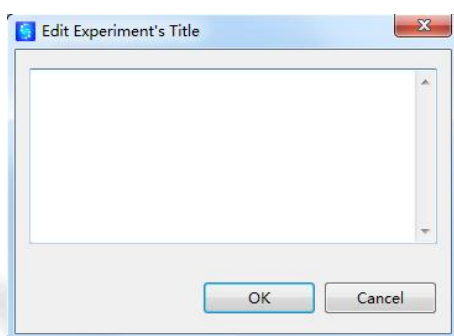

Figure 1.79 Edit title dialog
⑧ Load Shim Values: retrieve the shim values from a shim file. If your shimming is not good, you can select a saved data with good shimming to retrieve it.
⑨ Upload: upload data to the predefined FTP server.
⑩ Copy: copy data.
⑪ Paste: paste copied data. Using Copy and Paste can copy experimental data to any nodes.
⑫ Delete: delete the node.
⑬ Edit Experiment Title: edit the experimental title, which may contain any information you want to be recorded, which will be shown in the bracket following the experiment node name, and will be shown above the spectrum when you print or export it (Figure 1.79).